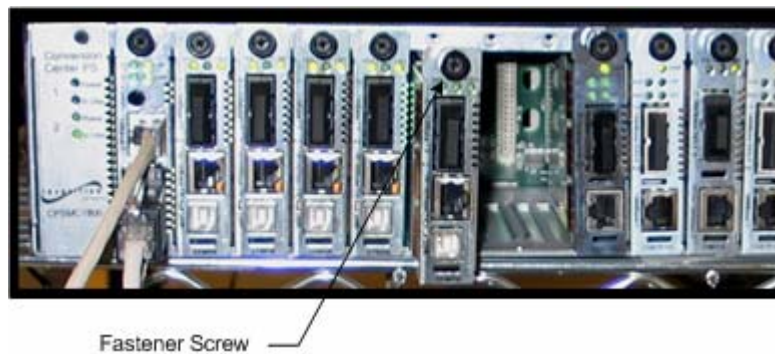

Figure 12: CFBRM/CBFFG Device Chassis Installation
5.	Push IN and ROTATE clockwise the panel-fastener screw to secure the Device to the chassis. See Figure 12.